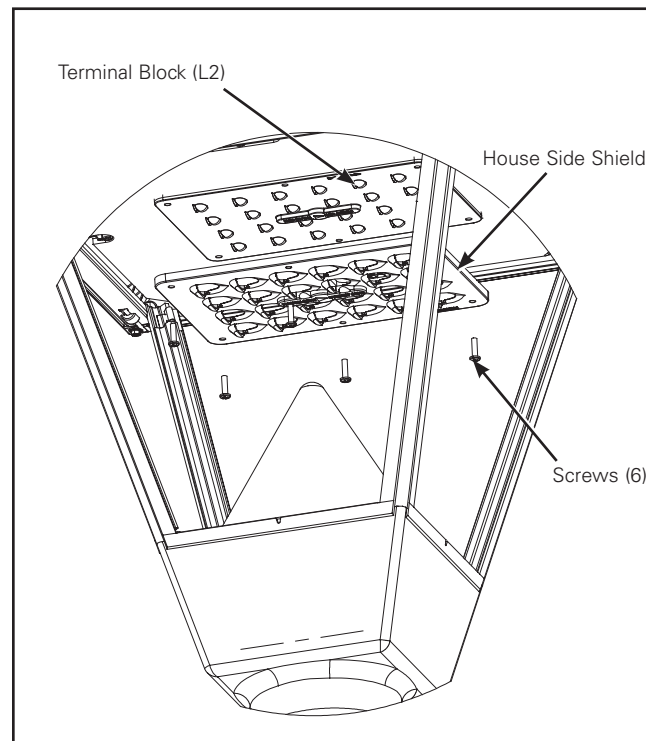

Figure 6.
Field Installed House Side Shield Installation (1 per LED) (Figure 6.)
- Install house side shield with provided #10 X 1/2" Phillips screws. Tighten until house shield is snug. Do not over Tighten (Figure 6.).